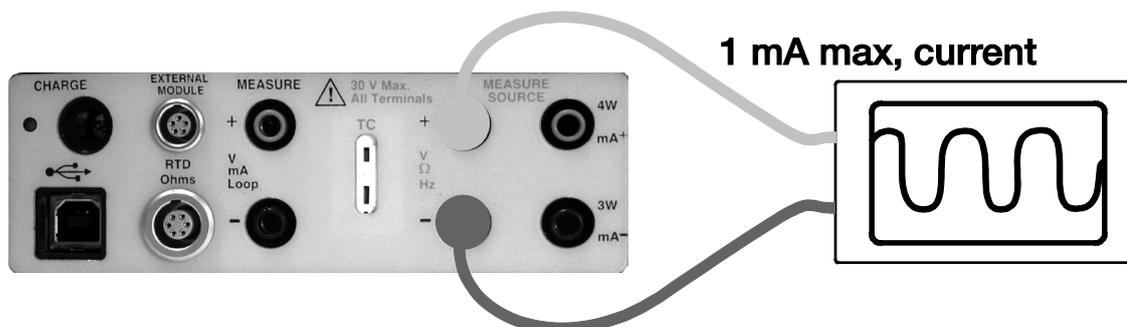

Figure 19: Connections for testing an Output Device
- Connect the leads to the instrument and the calibrator (shown in Figure 19).